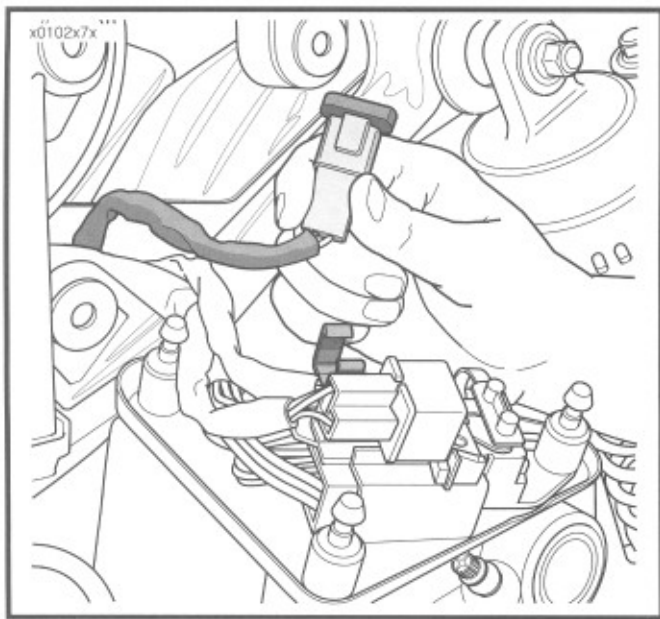

Figure 7-27. Data Link Connector - 1200S
2. See Figure 7-27. Note the Data Link connector (pin side of 4-place Deutsch) on the side cover.